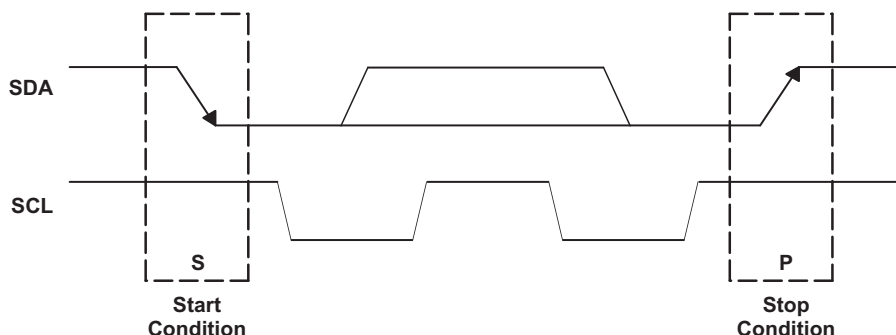

Figure 9. I²C Start and Stop Conditions
The basic I²C start and stop access cycles are shown in Figure 9.
- The *master* initiates data transfer by generating a *start condition*. The *start condition* exist when a high-to-low transition occurs on the SDA line while SCL is high, as shown in Figure 9. All I²C-compatible devices should recognize a *start condition*.
- To signal the end of the data transfer, the master generates a *stop condition* by pulling the SDA line from low to high while the SCL line is high (see Figure 9). This releases the bus and stops the communication link with the addressed slave. All I²C compatible devices must recognize the *stop condition*. Upon the receipt of a stop condition, all devices know that the bus is released, and they wait for a *start condition* followed by a matching address.